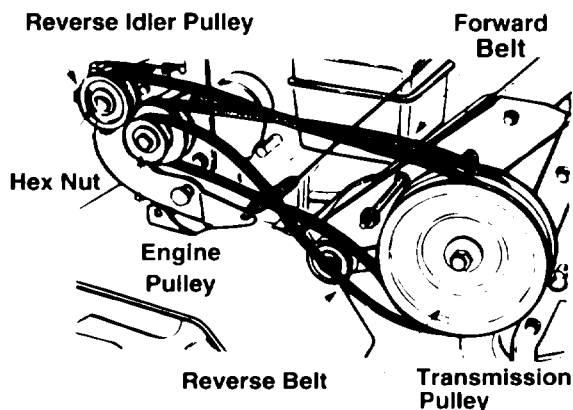

Figure 19 Model 390 Shown
5. Remove the hex nut which secures the reverse idler pulley to the idler bracket. Slide idler pulley out and remove the belt. (See Figure 19.)
Forward Drive Belt (See Figure 19)